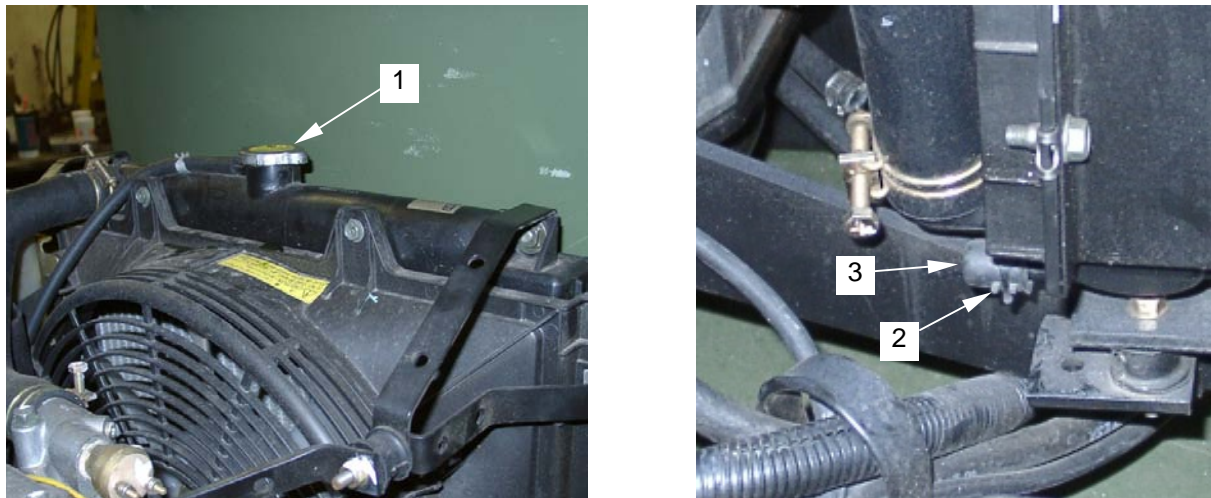

Figure 37. Radiator Fill Cap and Drain Plug
- a. Remove the radiator cap (**figure 37, item 1**).
- b. Loosen and remove the drain plug hose clamp (**figure 37, item 2**) and drain plug (**figure 37, item 3**) on the radiator and drain the coolant into an approved container.
- d. Install drain plug (**figure 37, item 3**) and hose clamp (**figure 37, item 2**).